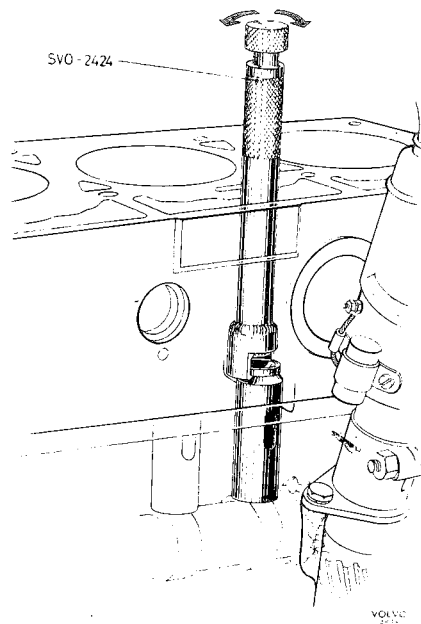

Fig. 2-11. Removing valve tappet
3. Remove the alternator, water pump, distributor, valve cover, rocker arms and oil filter. Remove the manifolds with carburetors. Take off the cylinder head. Remove the valve tappets with tool 2424, see Fig. 2-11.